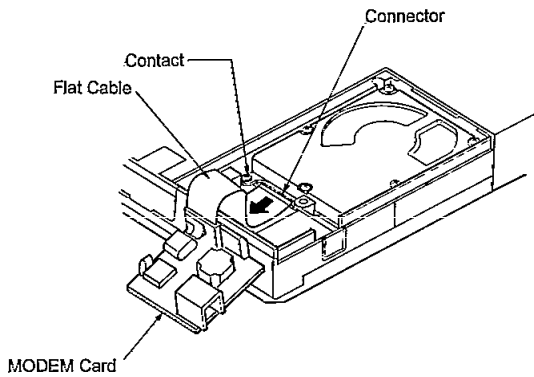

Figure 8
4. Carefully remove the flat cable from the connector. (Refer to Figure 8.)